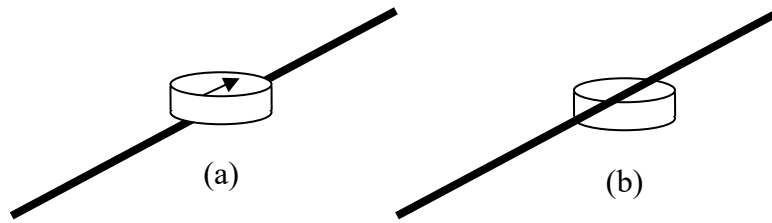

Fig. 5: (a) The commercial compass placed above the wire and (b) below the wire.
- Place the small compass on top the wire and orient the wire so that it runs parallel to the stable direction of the compass. See Fig 5(a) below.
- With the switch OPEN again, place the compass below the wire (again, with the wire parallel to the compass needle) and close the switch as shown in Fig 5(b). Note the behavior of the compass. Reopen the switch after the compass settles down.